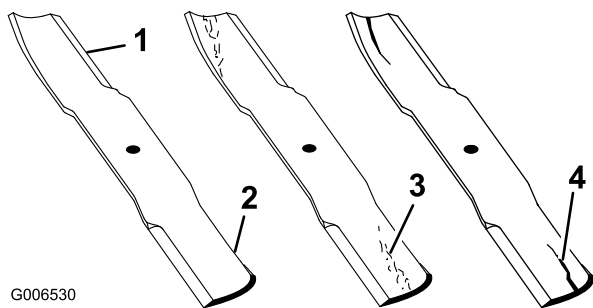

Figure 99
1. Inspect the cutting edges (Figure 99). If the edges are not sharp or have nicks, remove and sharpen the blades. Refer to Sharpening the Blades.
2. Inspect the blades, especially the curved area (Figure 99). If you notice any damage, wear, or a slot forming in this area (Figure 99), immediately install a new blade.